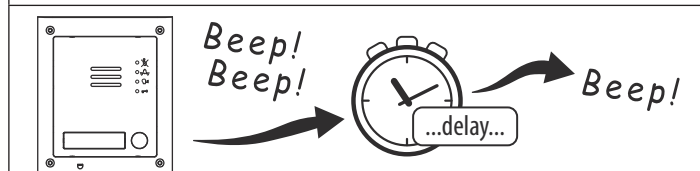

Fig. 61
3. Power up the GSM module, 2 beeps will be heard followed by a brief delay and then a 3rd beep, as shown in **Fig.61**.